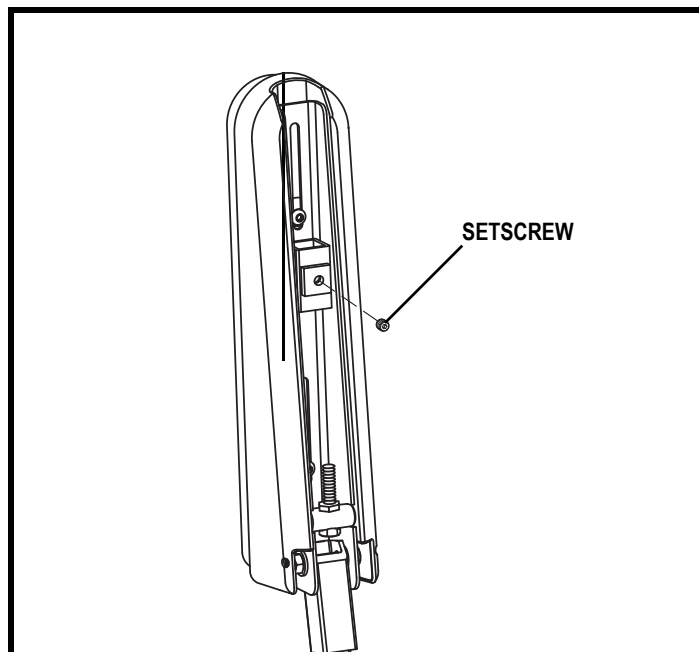

Figure 22. Underside of Armrest
2. Loosen the setscrew on the controller bracket. See figure 22.
5. Loosen the setscrew. See figure 22.